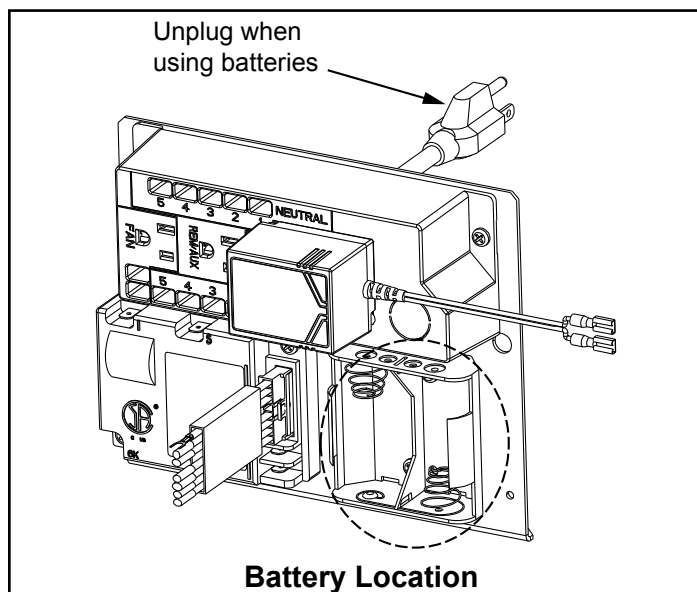

Figure 7.3
3. Place two "D" cell batteries into the battery holder. (Figure 7.3)